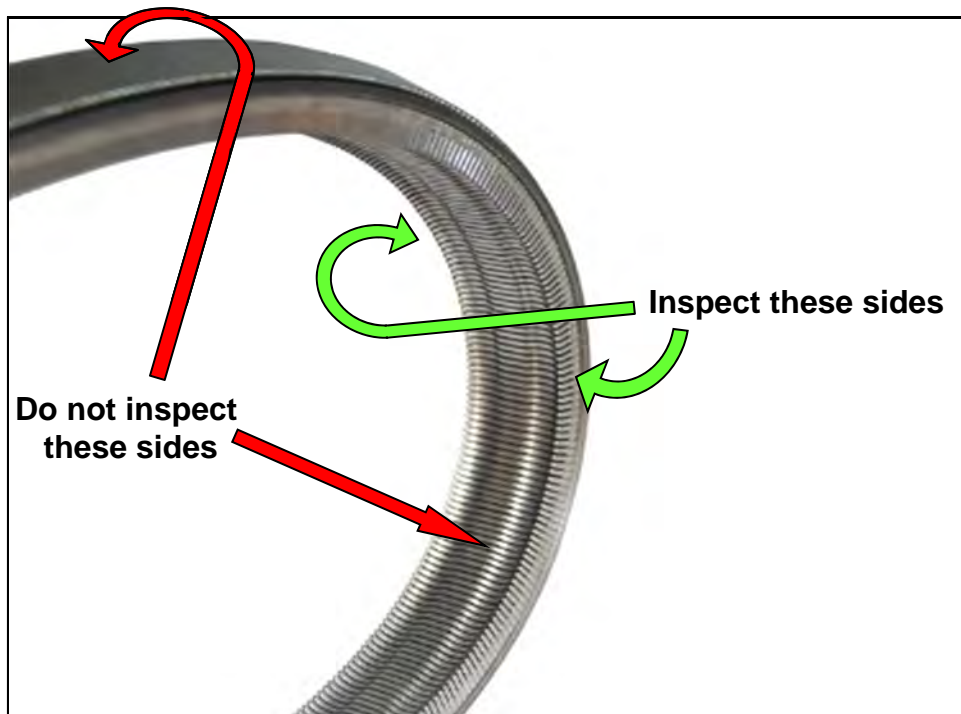

Figure 26
19. Mark the driver side (LH) front wheel with a suitable marking.
20. Inspect the entirety of the two sides of the belt that come in contact with the pulleys (Figure 26).